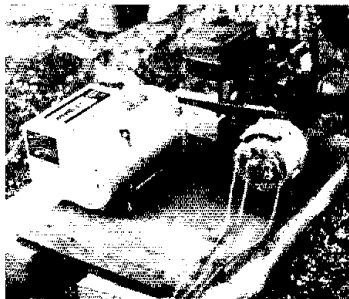

Fig. 3 — Photo of a gasoline-engine power supply for 117-V ac and 12-V dc.
□ When Dwight and Ann Mueller were planning to spend a year in the Alaskan wilderness, they needed a small, portable power supply.⁴ Dwight built a gasoline-engine-powered unit that included a 12-V automobile alternator and a 2500-W, 117-V alternator (Fig. 3).